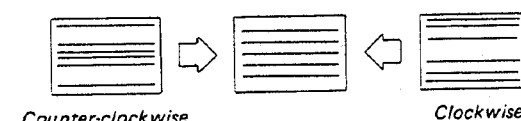

Fig. 28-3
4. Adjust the gain of V lineality with V.L.G (RV8) on the D board as shown in Fig 28-3.